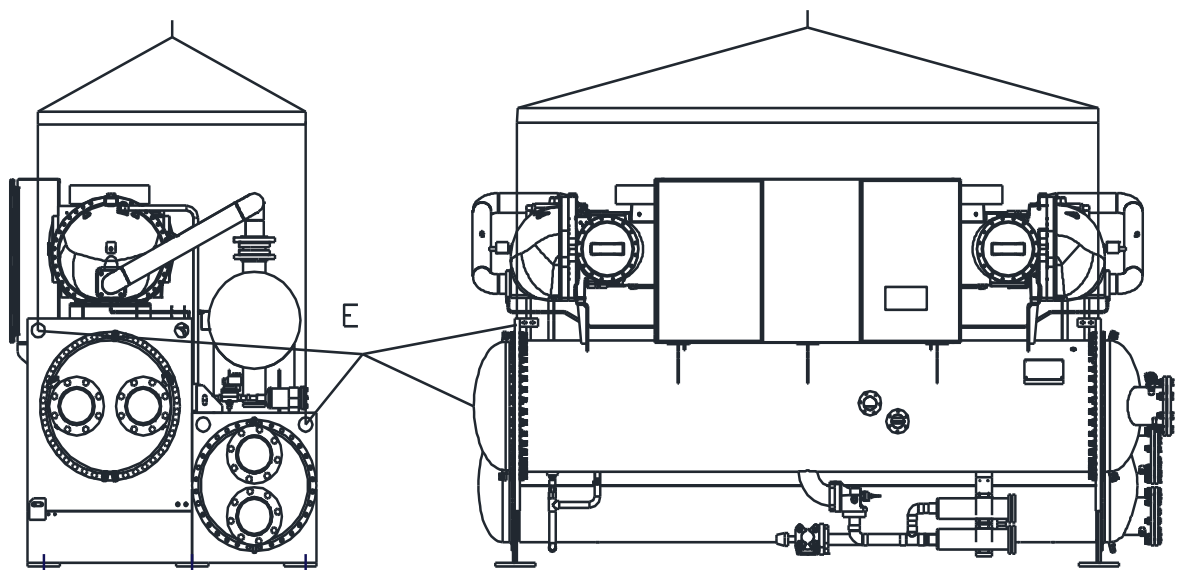

Fig.5-1
The lifting mode is shown in Fig.5-1. Parameters on nameplate shall be taken as the criteria for dimensions and weight.
- A) It is only allowed to lift with the marked lifting location on the chiller. (Lifting hole as Fig. 5-1 "E")